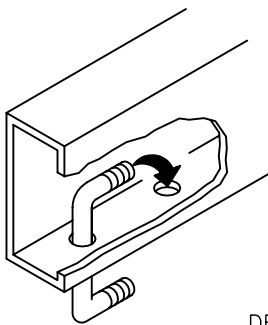

FIGURE 2
6. INSERT U-BOLT AS SHOWN IN FIGURE 2. INSTALL CONICAL TOOTHED WASHERS AND 3/8 HEX NUTS.